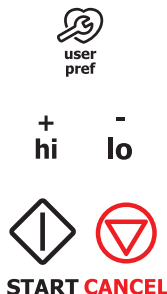

Figure 9: Clock on (L) or off (R) display
1. Press **user pref** until **clock display** mode appears (See Figure 9).
2. Use **hi +** or **lo -** on either side of the zero (0) on the numeric keypad to toggle to the **CLO off** option.